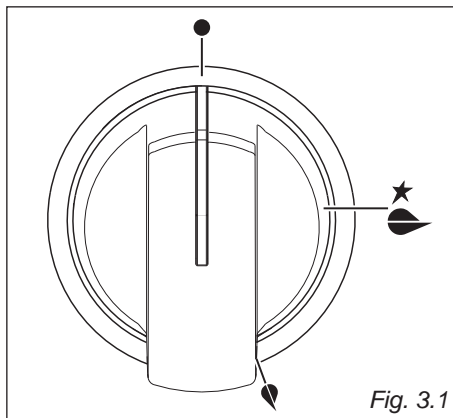

Fig. 3.1
- Unhook the terminal board cover by inserting a screwdriver into the two hooks "A" (fig. 3.1).
Gas flow to the burners is adjusted by turning the knobs (illustrated in fig. 3.1) which control the valves.